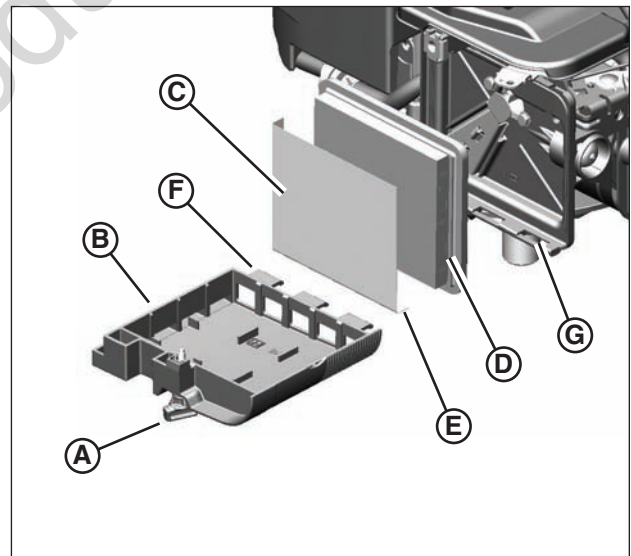

Figure 14: Air filter and pre-cleaner
1. Loosen the fastener (**A, Figure 14**) that holds the cover (**B**).